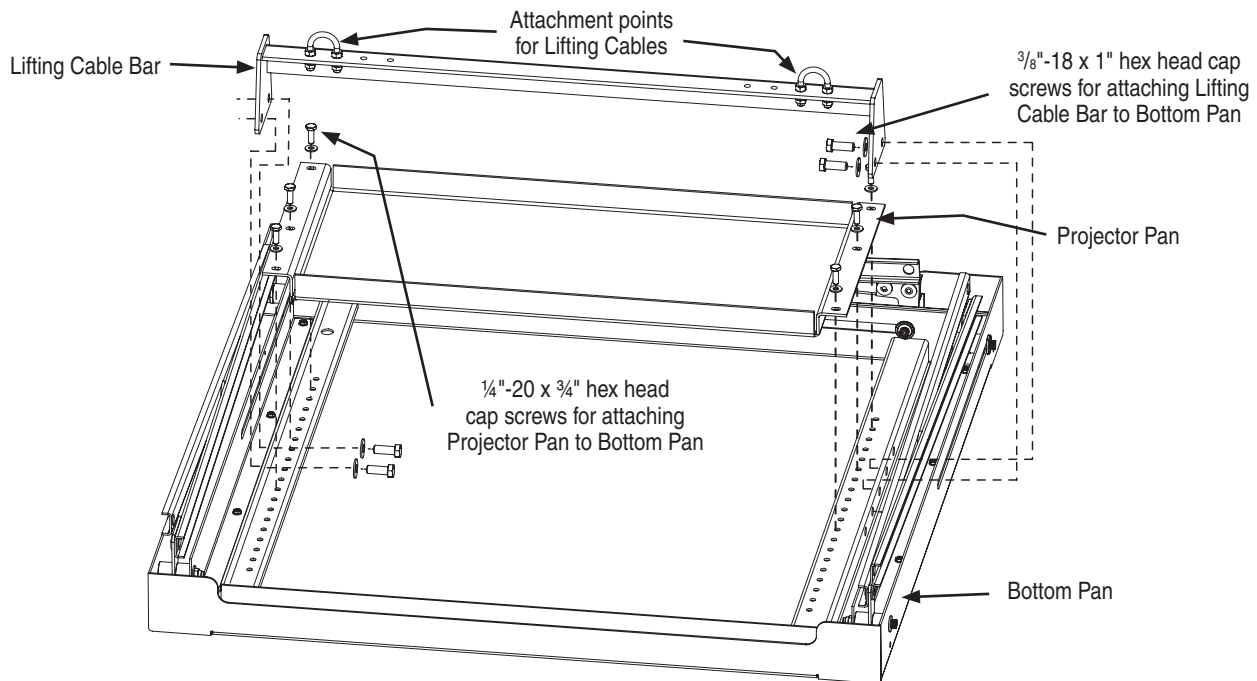

Figure 2
- ① **Make sure Bottom Pan is supported.**
- ② Remove the Lifting Cable Bar (see Fig. 2).
- ③ Remove screws holding Projector Pan on Bottom Pan (see Fig. 2).
- ④ Move Bottom Pan forward or back.
- ⑤ Replace screws.
- ⑥ Replace Lifting Cable Bar.
- ① Make sure Bottom Pan is supported.
- ② Remove screws holding Lifting Cable Bar to the Bottom Pan (see Fig. 2).
- ③ Move Lifting Cable Bar forward or back (see Fig. 2).
- ④ Replace screws.
- ⑤ Check level again. If still not level, repeat.
- ① Lower unit until the Bottom Pan is resting on a tabletop or other stable and sturdy surface.
- ② Remove Lifting Cable Bar from Bottom Pan (see Fig. 2).
- ③ Remove bolts holding Projector Pan to Bottom Pan (see Fig. 2).
- ④ Remove Projector Pan and set aside.
- ⑤ Place new Projector Pan with Universal Mount into place.
- ⑥ Re-attach Projector Pan to Bottom Pan.
- ⑦ Re-attach Lifting Cable Bar to Bottom Pan.